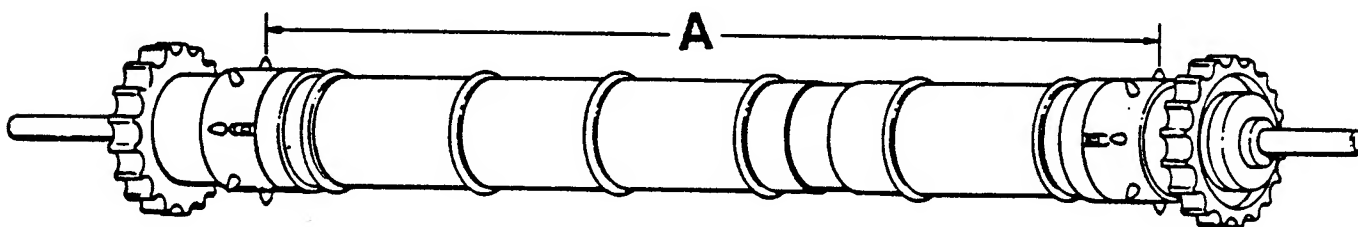
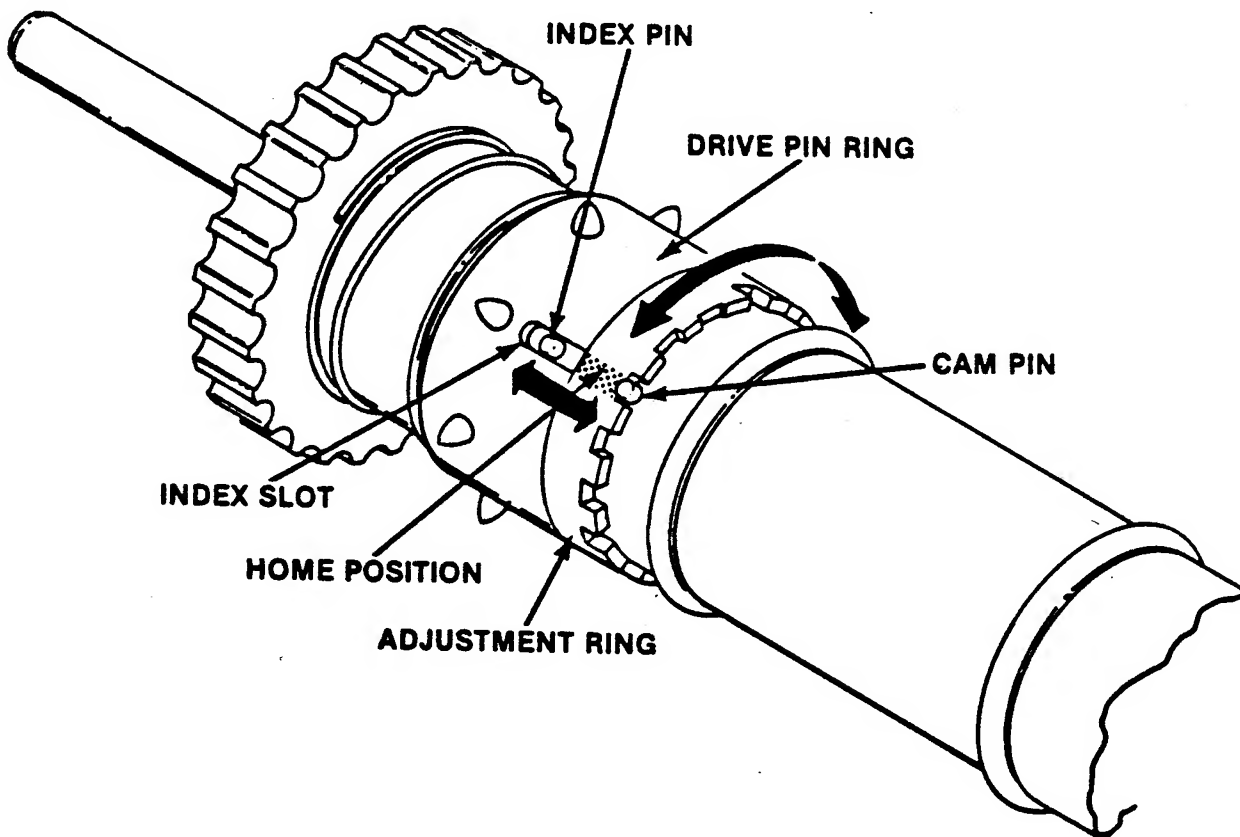

Figure 1 Adjustable Pin-Feed Drive Roller
Figure 2 Adjustable Drive Roller Detail
DESCRIPTION—Refer to Figure 1 (detail in Figure 2, reverse side). The Adjustable Pin-Feed Drive Roller has adjustable rings and tension springs at each end. The tension springs ensure pin-to-pin distance, once set by the operator. The Drive Pin Rings move longitudinally while retaining proper pin alignment. Each Adjustment Ring has eight fixed positions, allowing fine adjustment of pin-to-pin distance.
* See Figure 2 for 'Home Position'
DIRECTIONS—Refer to Figure 2. To adjust the pin-to-pin distance to accommodate the fan-fold paper, perform the following:
The shaded area in Figure 2 illustrates the "HOME" position (228.6 mm or 9" for short version; 238.6 mm or 9.4" for long version). The printer is shipped from the factory set in the "HOME" position.